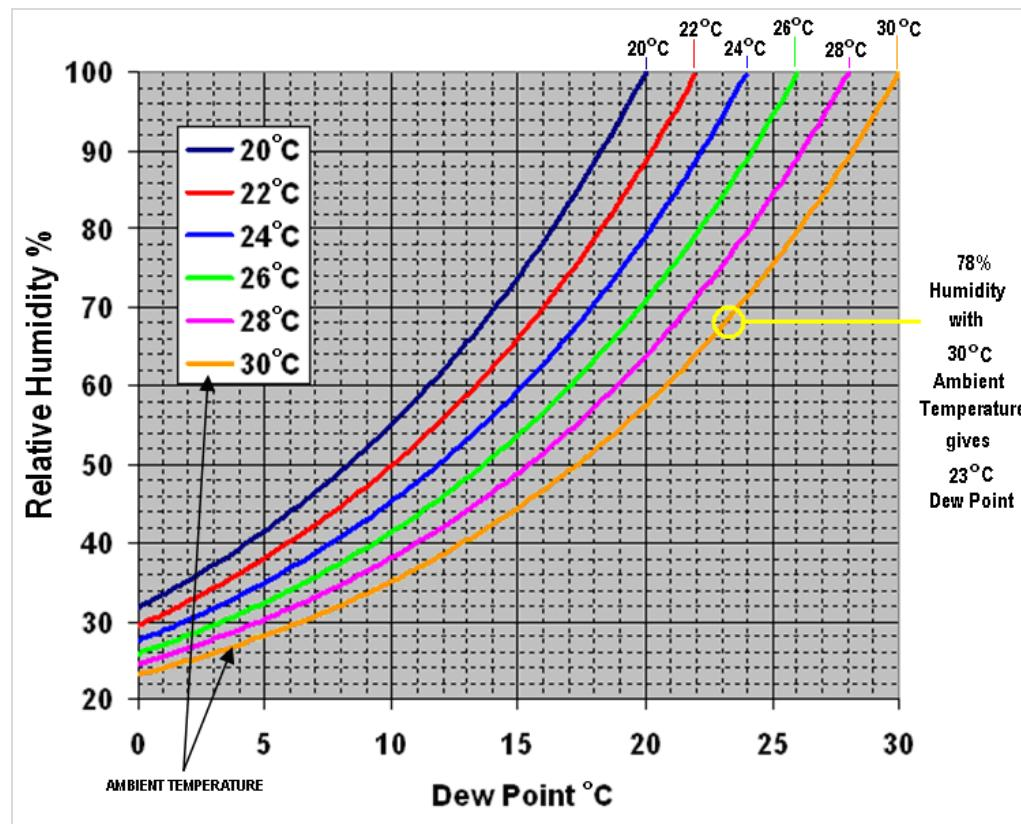

Figure 8: Dew point graph
**Figure 8** below shows the relationship between Relative Humidity and Dew Point at varying ambient temperatures. This can be used to calculate the minimum temperature the cooling water should be set at.